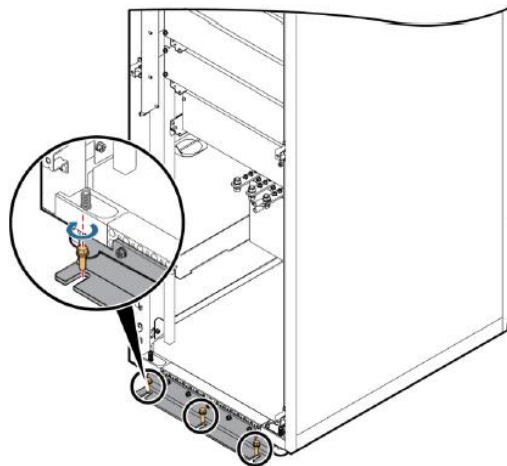
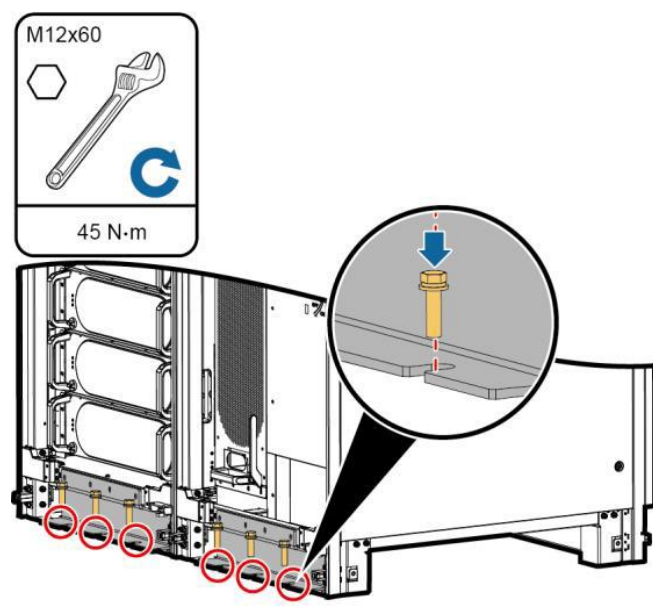

Fig. 2-59 Locking anti-seismic components to ground (300kVA)
Fig. 2-60 Locking anti-seismic components to ground (500kVA)
- Step 6: Use M12×60 expansion bolts to lock the anti-seismic components to the ground in front and rear of the cabinet. For example the front of the cabinet, and the specific operation is shown in Fig. 2-59 and Fig. 2-60.